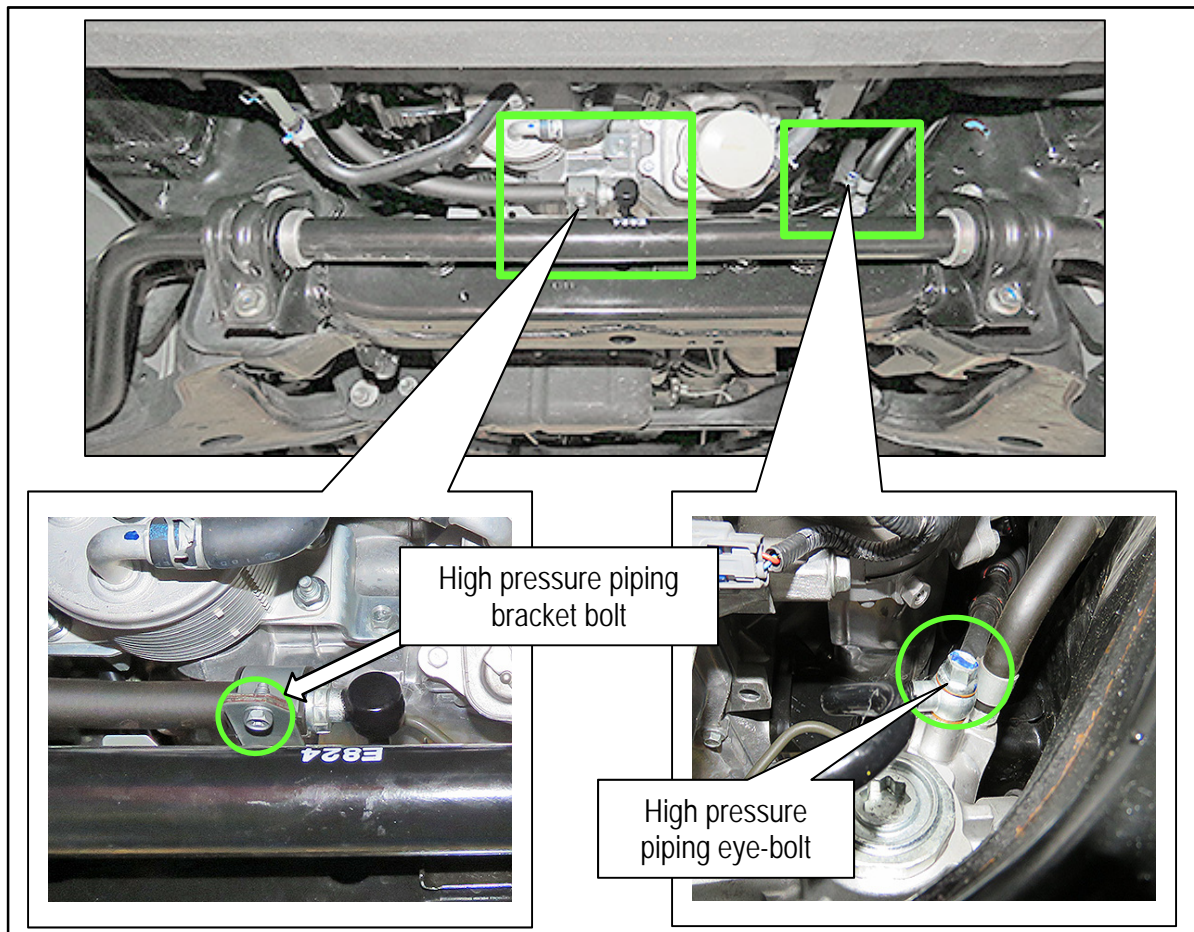

Figure 6
9. Remove the high pressure piping eye-bolt and one (1) high pressure piping bracket bolt (see Figure 6), and then remove the high pressure piping from the vehicle.